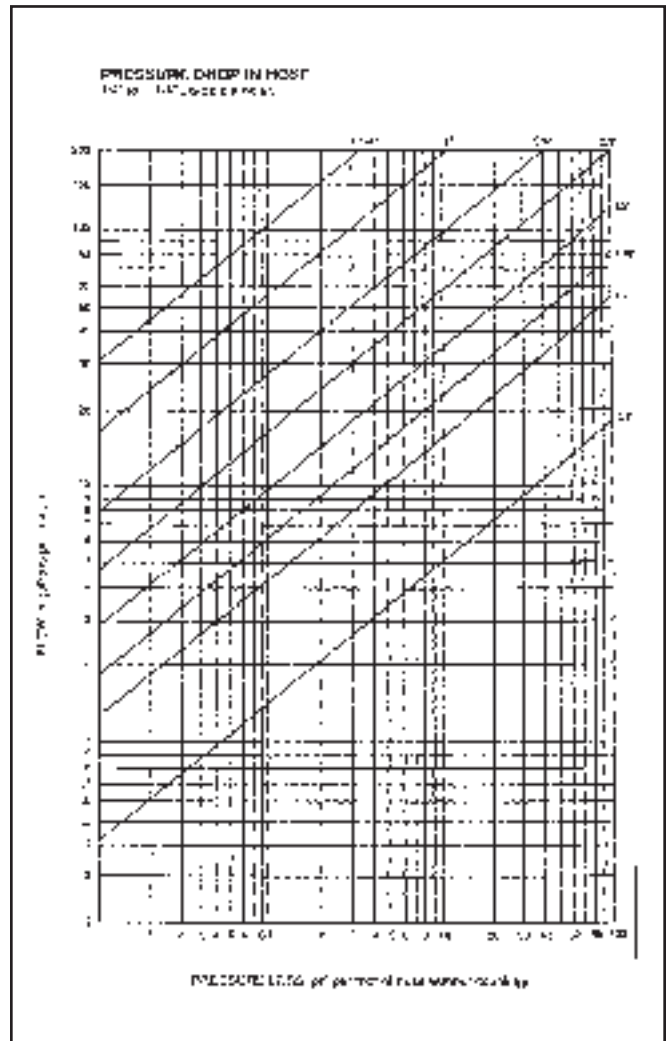

**Figure 8-2. Agitation systems for liquid application equipment.**
**Agitation system.** Most spray tanks are equipped with some type of agitation system. **Good agitation is important for maintaining a uniform spray mixture and for mixing adjuvants such as inverting oil or polymers.** Figure 8-2 shows hydraulic and mechanical agitators. Some tanks are equipped with both types of agitators.
A well designed hydraulic agitation system that uses a venturi device for stirring is adequate for keeping wettable powders in suspension. However, this type of agitator will not stir the mixture enough to form invert emulsions or mix polymers. To function properly, the hydraulic agitation line must be tapped into the high-pressure side of the pump (Figure 8-2). When you're using a hydraulic agitator, the pump must have the capacity to deliver the required flow simultaneously to the boom or handgun and to the agitator. If the maximum pressure that can be achieved after completely closing off the pressure regulator is lower than the pressure needed, the agitator orifice size must be reduced. Mechanical or paddle wheel agitators are probably the best type of agitator. Well designed mechanical agitators stir the mixture vigorously and allow the use of both